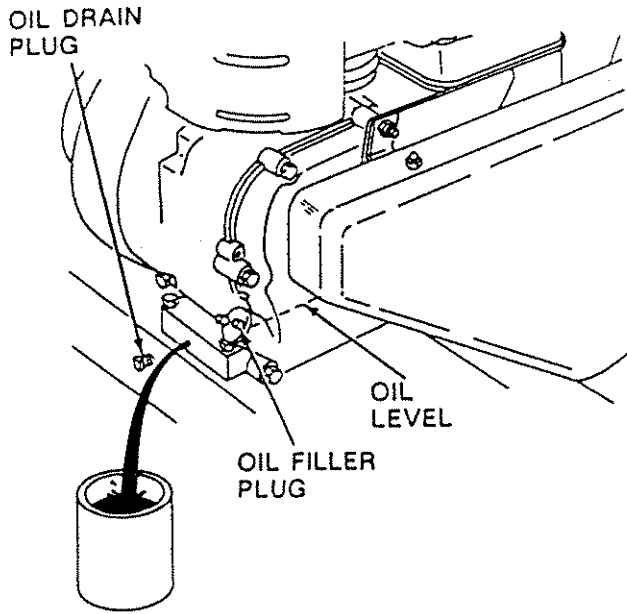

FIGURE 19
- For winter operation, Engine oil must be changed before the temperature drops below 32° F. Drain the Engine oil while Engine is warm (Fig. 19).